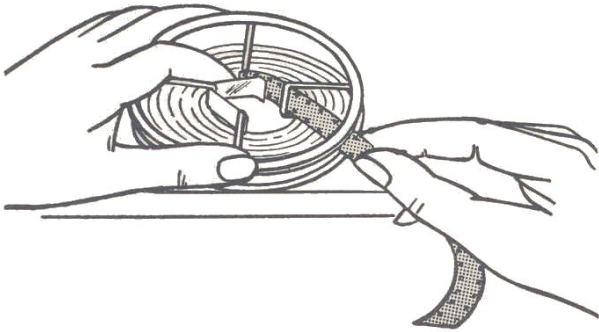

Figure 1
1. Place each reel flat on a table top and along one edge of the table, with open face of the reel **upward**, as in Fig. 1.
3. Holding film in right hand, over the edge of the table, insert end of film under the open clip and release the spring to close clip. (See Fig. 1.)